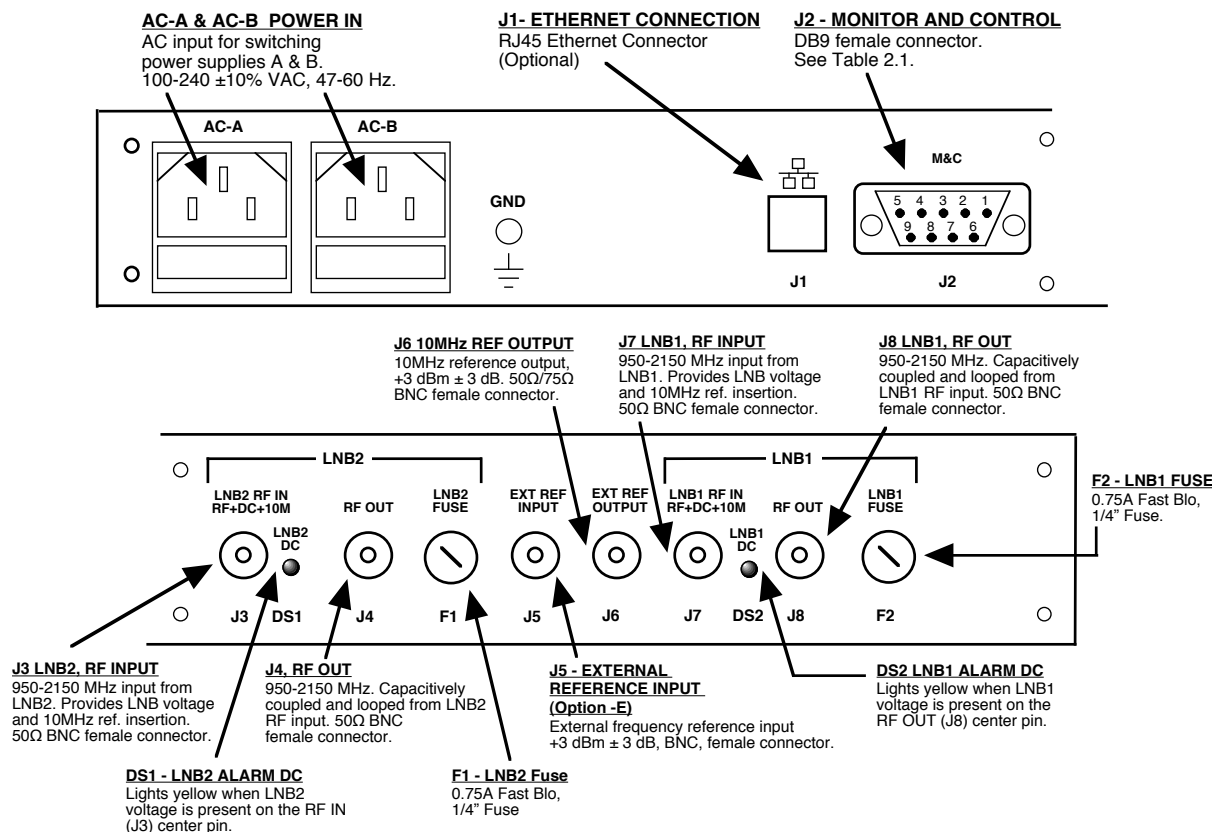

FIGURE 2.1 2099-1318 Rear Panel Outputs
2.2) Rear Panel Output Signals - Figure 2.1 shows the input and output connectors on the rear panel.
2. Connect 100-240 $\pm 10\%$ VAC, 47-63 Hz to AC-A and AC-B connectors (Figure 2.1).